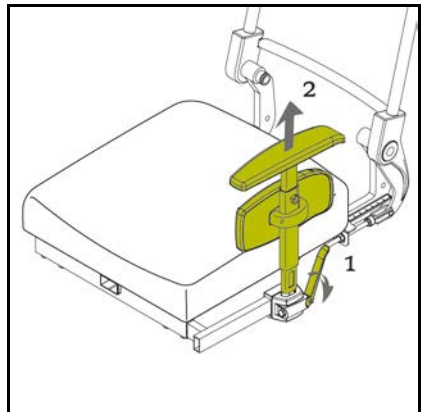

Figure 6.3
1. Push the lever to the back to unlock the armrest (fig 6.3).
2. Take the armrest out (fig 6.3).